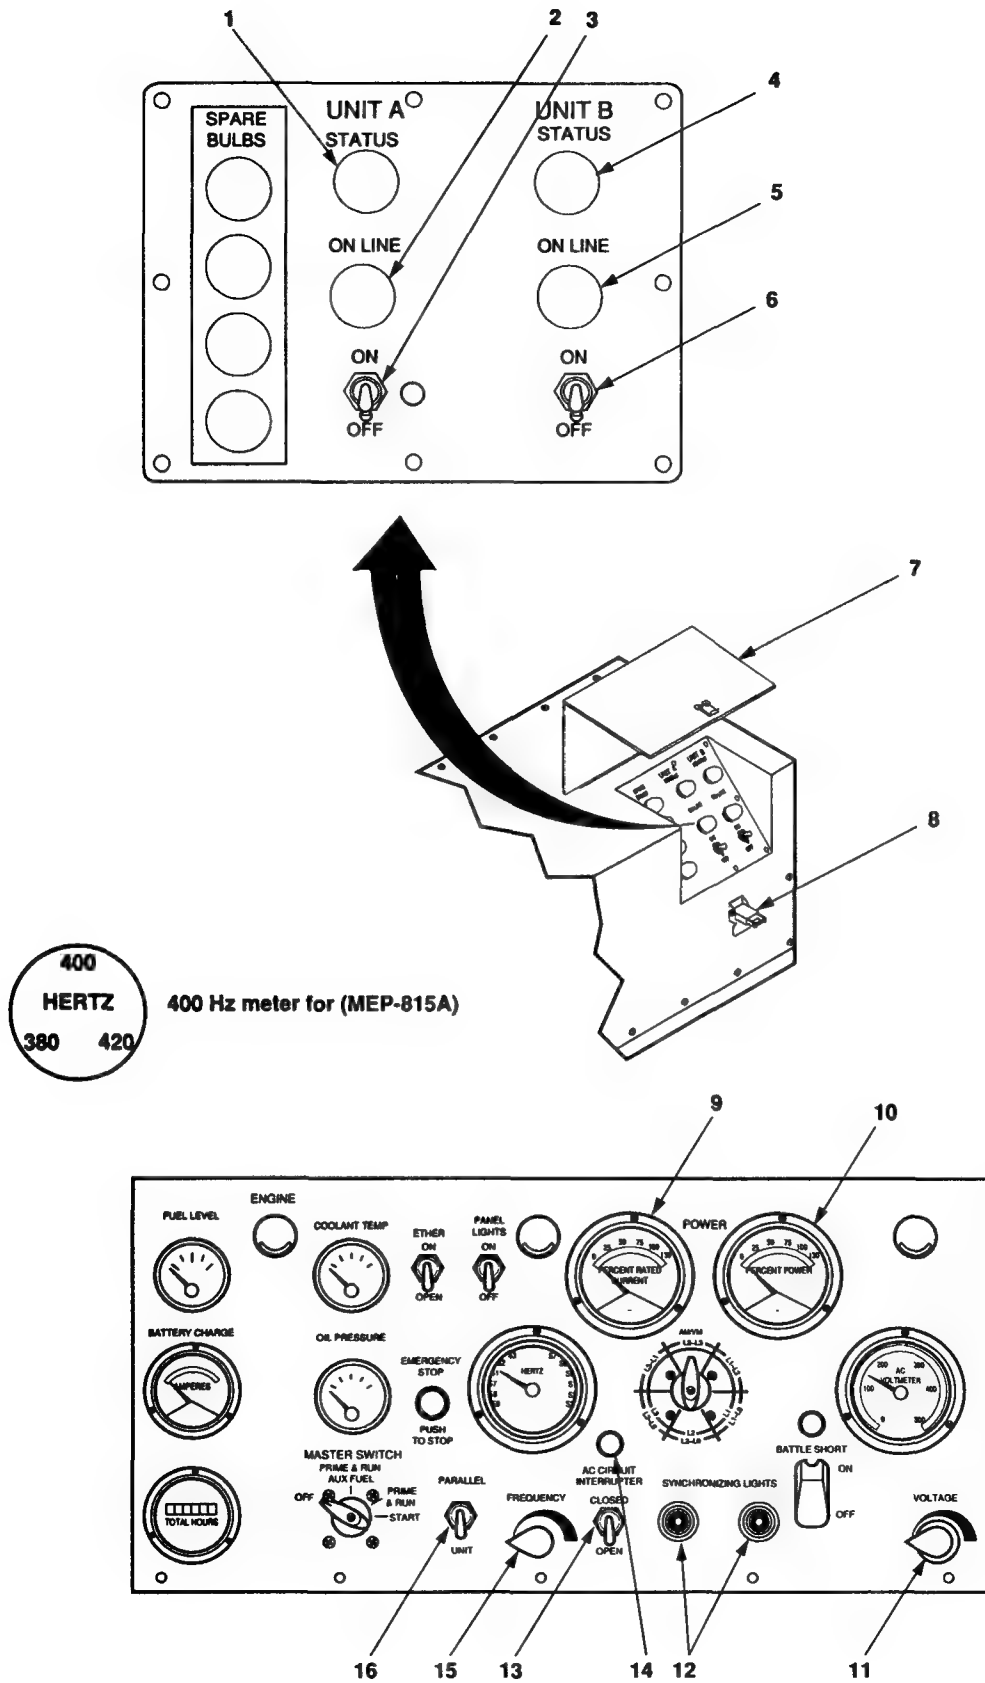

Figure 2-8. Power Plant Operation.
- b. Release the clamping catch (8, figure 2-8) and open the control panel access cover (7).
- j. Close the control panel access cover (7) and secure with clamping catch (8).